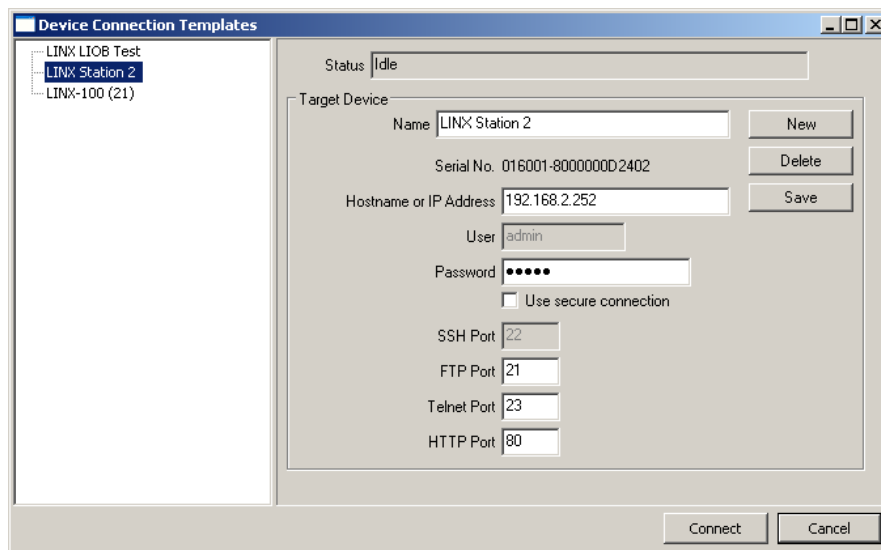

Figure 51: FTP connection dialog.
2. Select the menu: **Connection** → **Connect via FTP**. This opens the FTP connection dialog as shown in Figure 51.